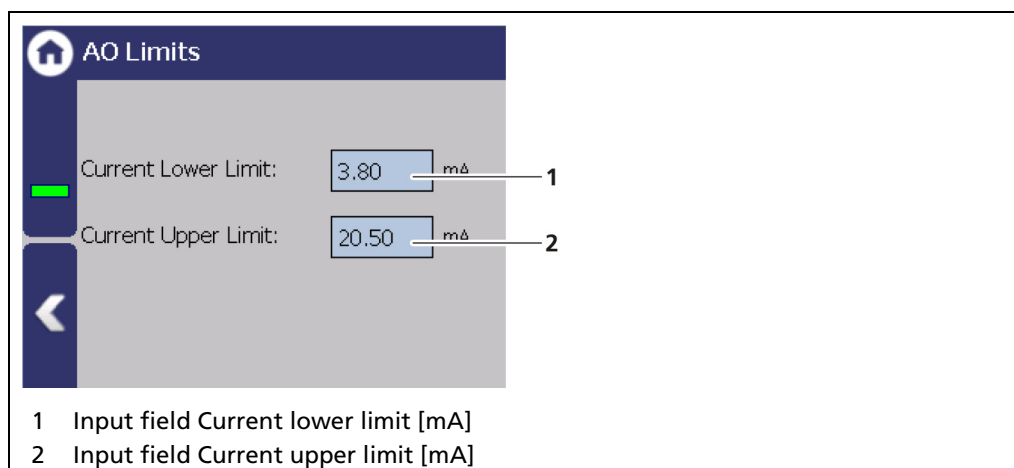

Fig. 118 Analog Output (AO Limit)
By clicking on the input fields (Fig. 118, item 1, item 2), the values [mA] for the lower and upper current limit can be set. In addition to the default value of 3.8 mA, the lower current limit can be set to 0 mA in order to switch the current output from 4 ... 20 mA to 0 ... 20 mA.